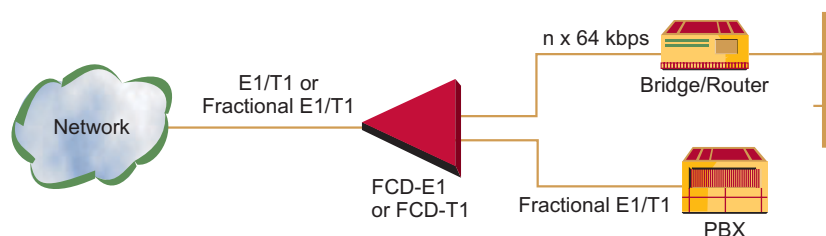

Figure 2. Connection of LAN Traffic together with PBX Traffic to E1/T1 Network
- FCD-E1 and FCD-T1 are access units for E1/T1 or Fractional E1/T1 services. They can be used as rate and interface converters or as integrating multiplexers for E1/T1 and Fractional E1/T1 services (see Figure 2).